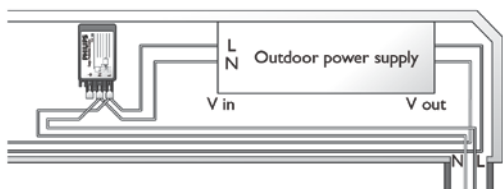

Figure 10. Incorrect wiring examples 1 and 2
1. Installing unprotected wires (wire which do not go via the Surge Protection Device) in parallel (Figure 10) with the protected wires (output wires of the device)
2. Crossing of unprotected and protected wires (Figure 10)